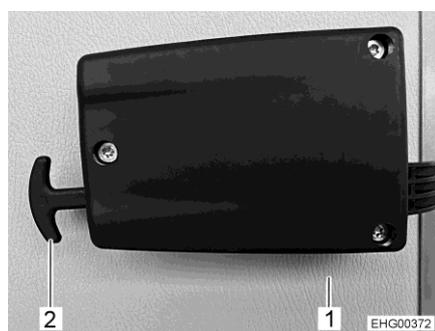

Fig. 58 Garage flap emergency release
- Pull both handles of the emergency release (Fig. 58,2).
- Push the garage flap (Fig. 58,1) outwards.